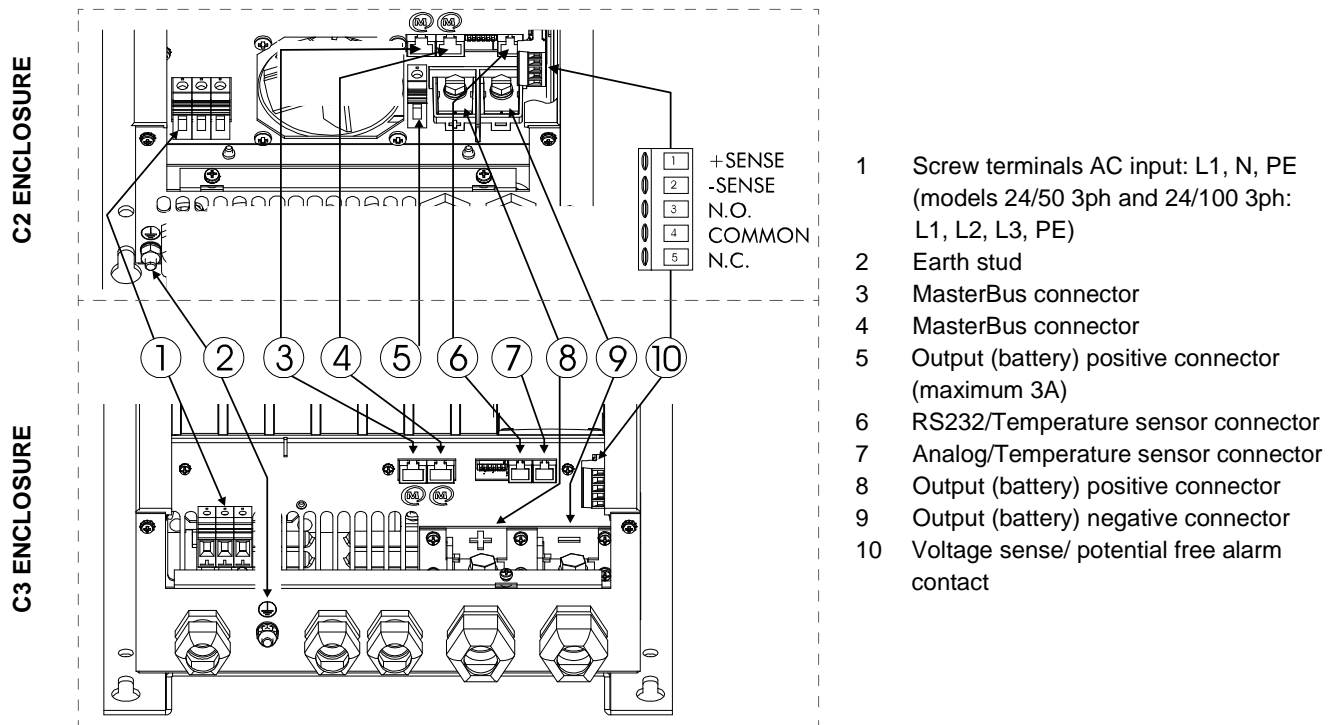

Figure 3. Overview connections Mass Charger
- Connect the plus of the second battery to the +3A terminal of the Mass Charger (Figure 3 and Figure 4).
3. Plug the modular cable into the terminal at the right of the Mass Charger (see Figure 3 on page 9). For the C3 enclosure (refer to specifications) both "RS232" and "analog" are suitable.
2. Connect the wires with the two upper terminals of the green connector at the right side of the cabinet (see Figure 3 on page 9). Pay extra attention to the polarity of the wires, red on +S and black on -S.
To control external equipment, the charger is equipped with a potential free contacts alarm relay; see Figure 3 on page 9. The alarm function has two modes: standard (factory setting) and DC alarm mode (continuous mode). The maximum switch current of the relay is 1A. Exceeding the setpoints will activate the alarm (see page 16).
- 2mm flat blade screwdriver for the sense terminal (see Figure 3, point 10).
**7** Attach the battery temperature sensor to the casing of the main battery bank. Plug the temperature sensor cable into the "Temp.Sensor" jack. See also Figure 3 on page 9.